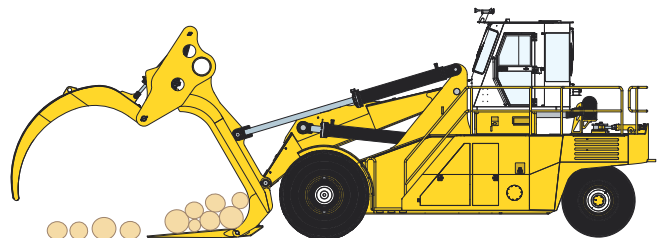

Figure 4-7-3 Retrieving
4. When retrieving spread logs and the last one is beyond the ends of the tines, extra reach can be gained by tilting the carriage forward. This places the holddown arms in a position to rake the logs onto the tines. The distance the top of the carriage extends forward is the extra reach gained at the tip of the holddown arms (See Figure 4-7-3).